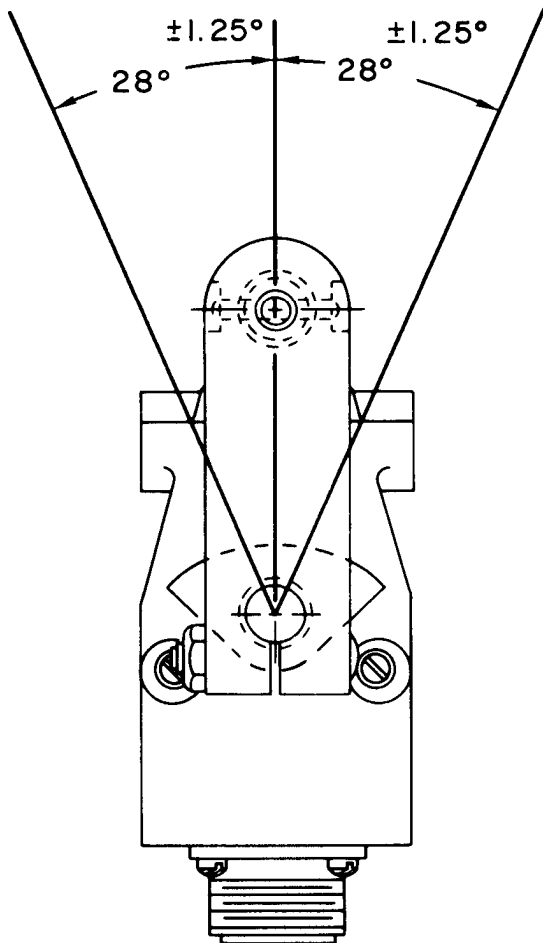

Figure 5-4. Stroke Setting Diagram, 28°, Part No. R460M15.
a. Substitute figure 5-4 for figure 4-1.